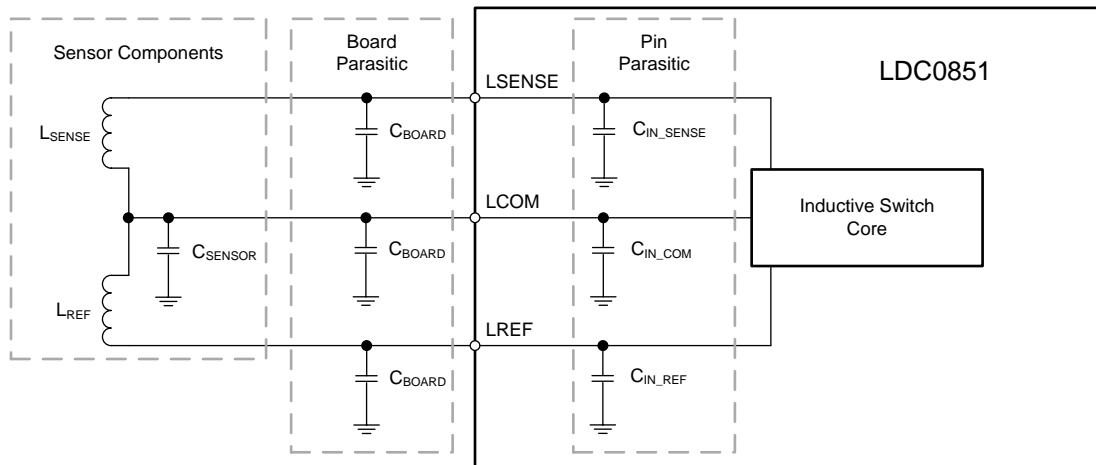

图 25. Sensor Components, Board Parasitics, and Package Parasitics Diagram
- C_{BOARD} is the parasitic capacitance of the board, see 图 25
- C_{TOTAL} is sum of external sensor, board parasitic, and pin parasitic capacitances connected to LCOM, refer to 图 25